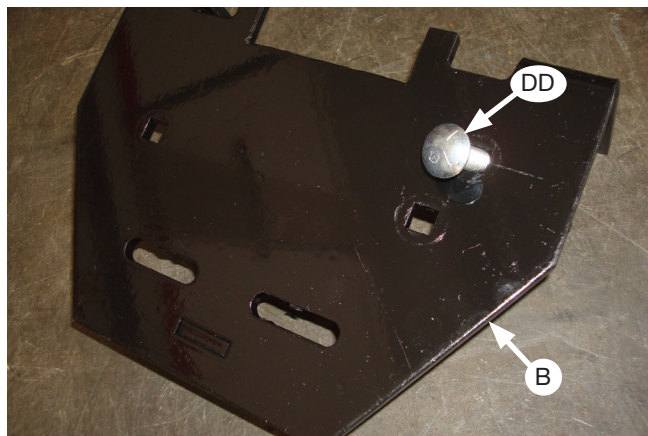
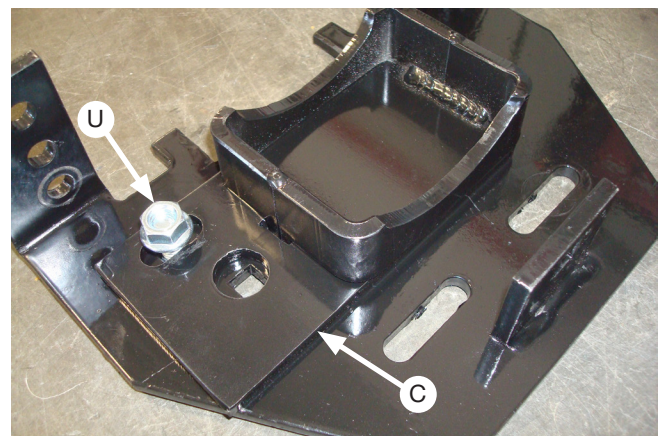

Fig. 10
Fig. 11
4. Insert a 3/8"-16 X 1" carriage bolt (DD) through the top of the lower bracket (B), as shown in Fig. 10. Flip the assembly over and set the lower bracket cup (C) onto the lower bracket and over the carriage bolt (Fig. 11). Cap with 3/8"-16 serrated flange lock nut (U) and snug the nut only. Leave loose enough for the bracket to move freely in the slot.